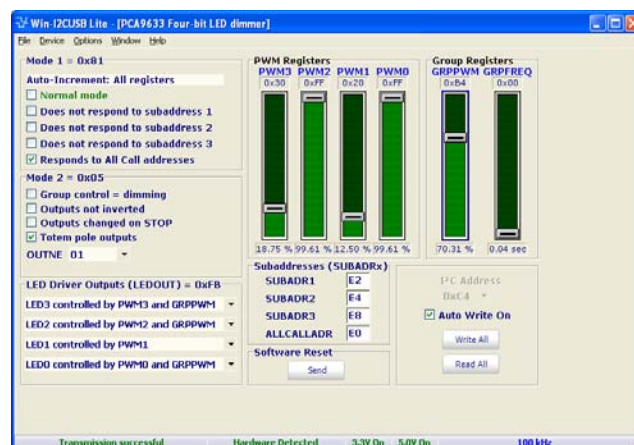

Fig 5. Dimming effect
9. Once you set a color with the PWM values, move the GRPPWM cursor and observe the dimming effect (Figure 5).